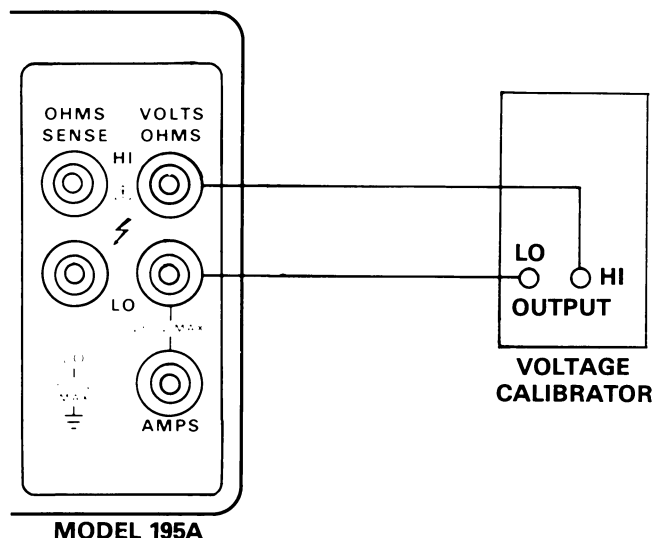

Figure 7-2. Voltage Calibration Connections
1. Select the DC volts function and connect the calibration source to the instrument as shown in Figure 7-2.
1. Connect the calibrator to the instrument as shown in Figure 7-2. Set the calibrator frequency to 1kHz.